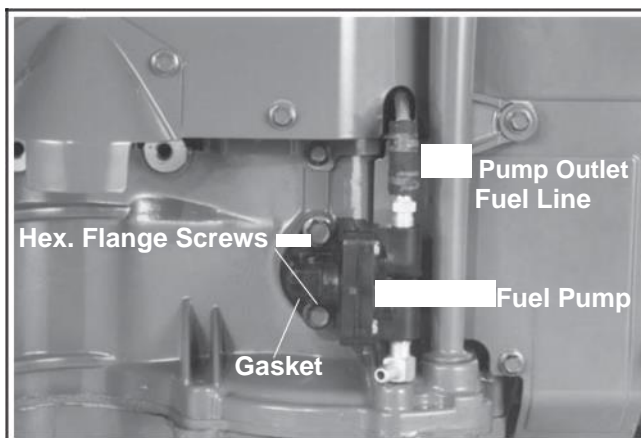

Figure 11-60. Installing Fuel Pump.
1. Install the rubber line and two hose clamps to the fuel pump end of the metal fuel line. Secure the rubber fuel line to the steel fuel line with one of the clamps. See Figure 11-60.